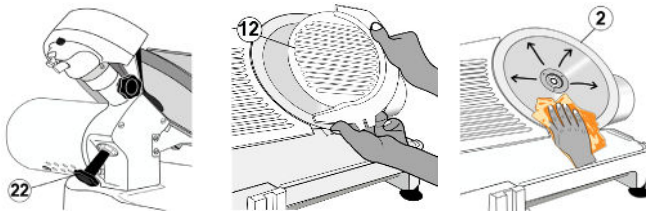

FIG 9. STEPS FOR KNIFE CLEANING
C. KNIFE (See Fig. 9).
- 1.- Loose the knife guard knob (22) by turning it counter clockwise. Knob's at the backside of slicer.
- 2.- Remove the knife guard plate (12) (lifting up using both hands).
- 3.- With **extreme caution**, wipe all the knife (2) towards outside (from center). Spray, clean and dry as necessary.